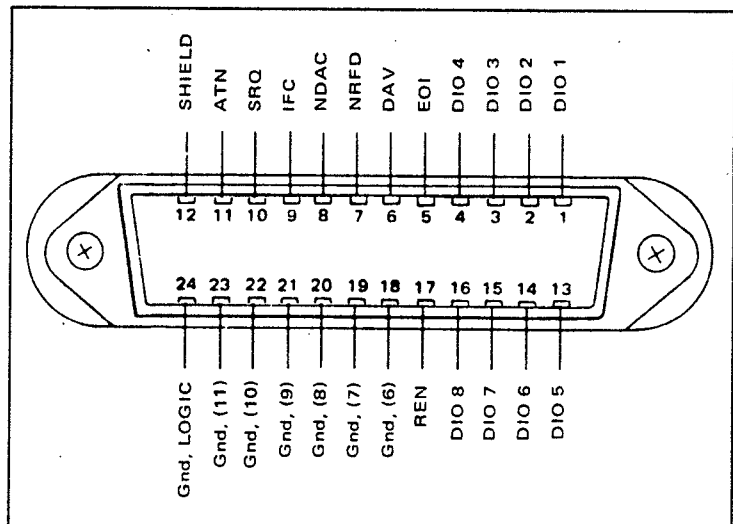
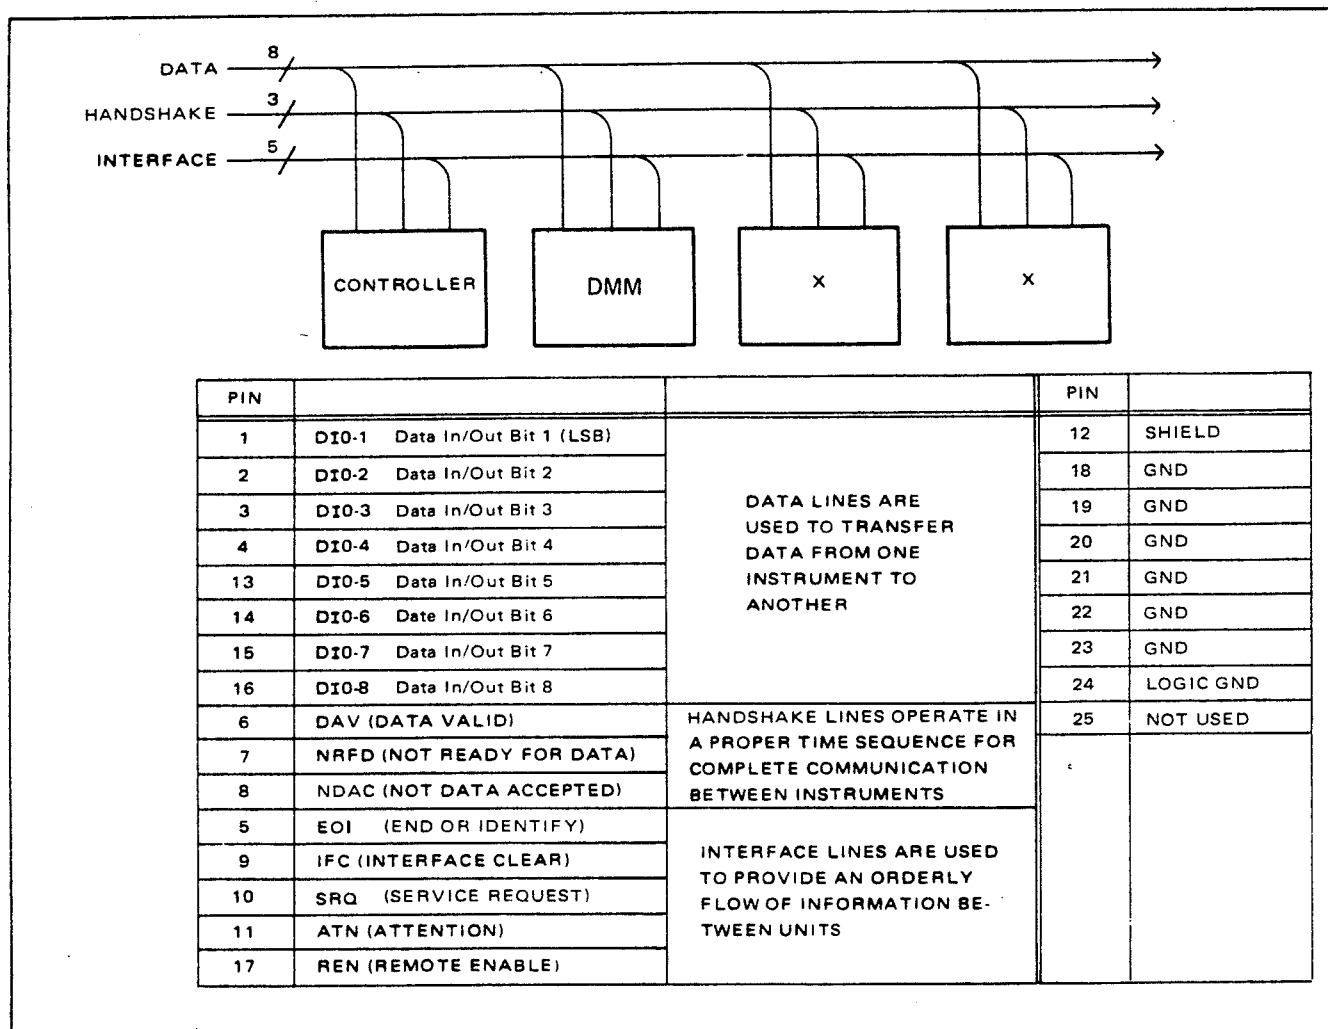

Figure 3.15 - GPIB Connector (Rear Panel)
Figure 3.17 - Interface Signal Pin Assignments
3.5.2.1 The IEEE-488-1978 (GPIB) Interface provides remote programming for all controls and the output of data from the DMM. Inputs and outputs are made via a 24 pin connector, (see Figure 3.15), located on the rear panel. The pin location, line identification, and operation of the GPIB are in compliance with IEEE-STD-488-1978. The GPIB provides interface capability with other instruments and with a controller also utilizing the "interface bus" structure. Connector pin assignments are shown in Figure 3.17. The IEEE-488-1978 subsets available are listed in Table 3.7.
3.5.3.1 Of the twenty-four lines available at the connector (shown in Figure 3.15) seven are grounds, one is a shield, and the remaining 16 lines are the signal lines. All of the signal lines are either input or output lines and have the following characteristics:
3.5.3.2 The signal lines, as shown in Figure 3.17 consist of three functionally separate sets: Data, Handshake and Interface.
3.5.4.1 The bus structure, to maintain an orderly transfer of data between the controller and devices, requires eight signal lines. Three signal lines (DAV, NRFD, and NDAC) to regulate transfers control are referred to as handshaking. Five signal lines (EOI, IFC, SRQ, ATN, and REN) to handle interface management are necessary to maintain a bi-directional data flow. The data lines D101 through D108 carry the bit parallel byte serial information between the talker and listener. Figures 3.17 and 3.18 illustrate the